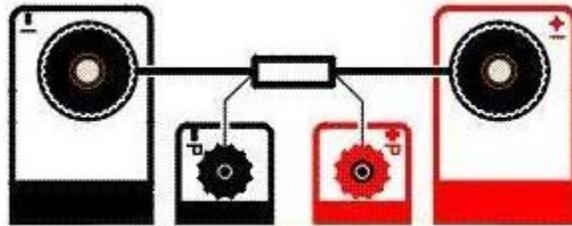

Figure 2
This section describes a typical, step by step, operation of the MC2. Open the top protection lid of the case and attach the test leads to the test set. The Two (2) connections on the front plate make **+I** & **-I** are the current leads. The Two (2) connections on the front plate make **+P** & **-P** are the Potential or Voltage leads. By connecting a test specimen to the Current leads (See figure 2) and applying the potential leads across the specimen the resistance readings will be determined.